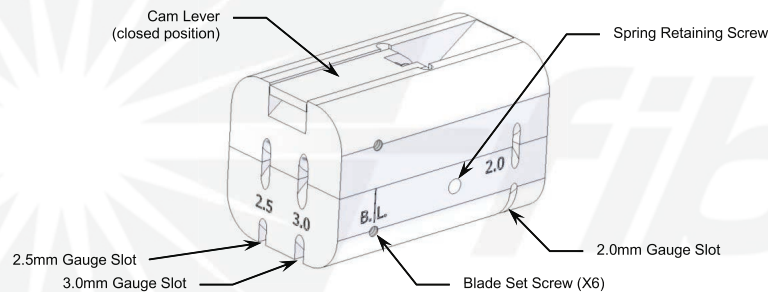

Figure 1
1. Using the incorporated gauge slots, determine the size of the buffer tube to be slit. (Figure 1)